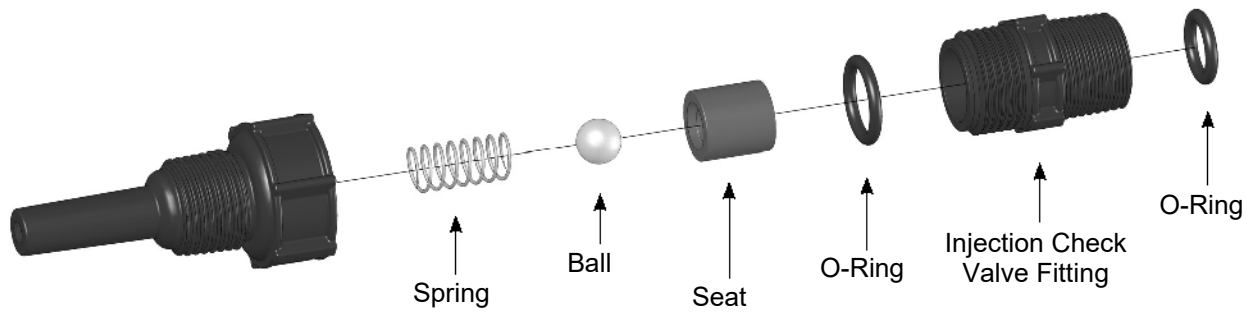

Figure 34: Injection Check Valve Assembly
3. Carefully disconnect the tubing leading to the injection check valve (Figure 34).